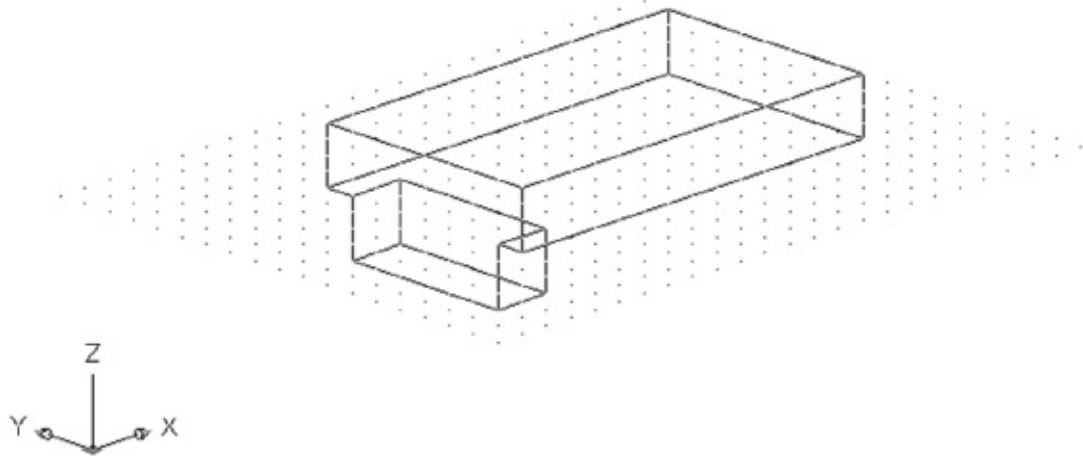

FIGURE 22.5 The two boxes joined
5. At the Select objects: prompt, pick both boxes and press ↵. Your drawing now looks like Figure 22.5.
As you can see in Figure 22.5, the form has joined to appear as one object. It also acts like one object when you select it. You now have a composite solid made up of two box primitives.